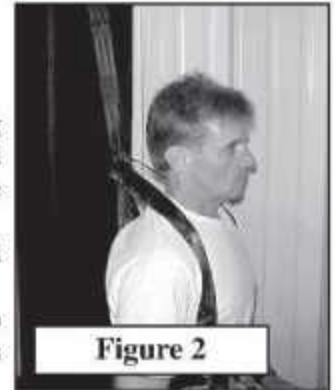

Figure 2
4. If wearing harness under hunting clothes, make sure your hunting clothes are not tight around your neck because the harness will shift up if you fall as shown in Figure 2.